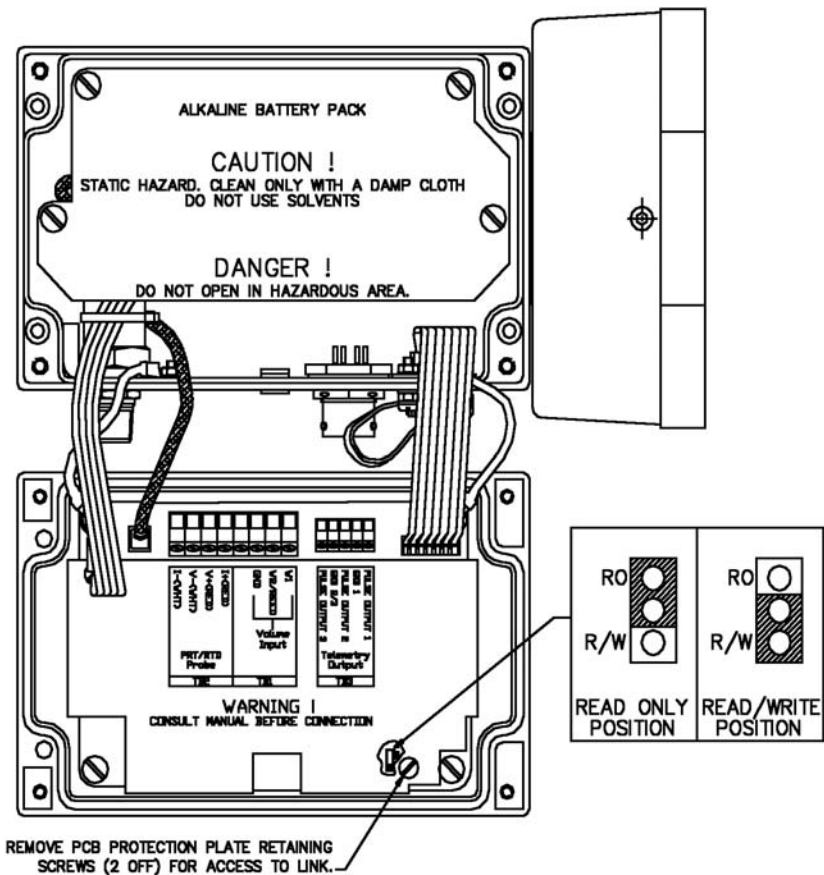

Figure 4 – Setting the Weights and Measure Link (Hardware Link).
5. Identify the Read/Write protection link; remove from the Read Only position and replace in the Read/Write position. Refer to Figure 4 (Setting the Weights and Measures Link).